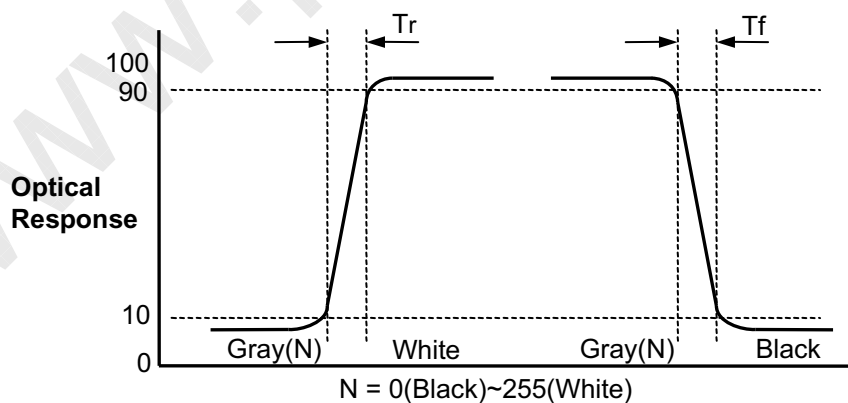

FIG. 3 Response Time
4. Response time is the time required for the display to transit from black to white (Rise Time, Tr_R) and from white to black (Decay time, Tr_D). For additional information see the FIG. 3.